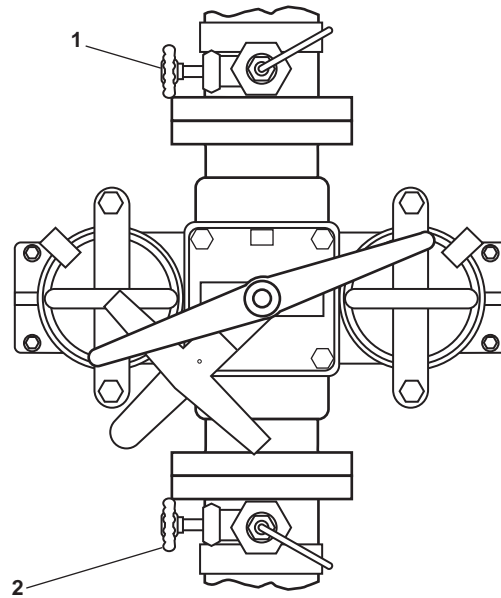

Figure 7. Gauge Valves
- (11) FM-89 (figure 7, item 1), fire fighting pump 1 suction strainer differential pressure gauge cutout, located in the engine room, below the entrance to AMS 2 to the starboard side.
- (12) FM-90, FIRE/G.S. PUMP No. 1 SUCT. (figure 7, item 2), fire fighting pump 2 suction strainer differential pressure gauge cut out, located in the engine room, below the entrance to AMS 2 to the starboard side.